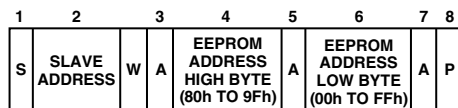

Figure 4c. Setting An EEPROM Address
2. Set up a 2-byte EEPROM address for a subsequent read or block read. In this case, the command byte is the high byte of the EEPROM address from 80h to 9Fh. The (only) data byte is the low byte of the EEPROM address. This is illustrated in Figure 4c.